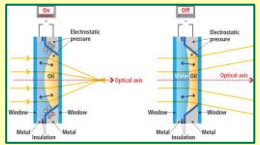

Figure 5: Schematic diagram of microlenses.
**Microlenses:** the shape of flexible liquid lenses can be adjusted by electrowetting as illustrated in Figure 5. First demonstrated by Kuiper et al.1 and Berge et al.2 and further developed by Philips Research (Eindhoven, the Netherlands) and Varioptics (Lyon, France).